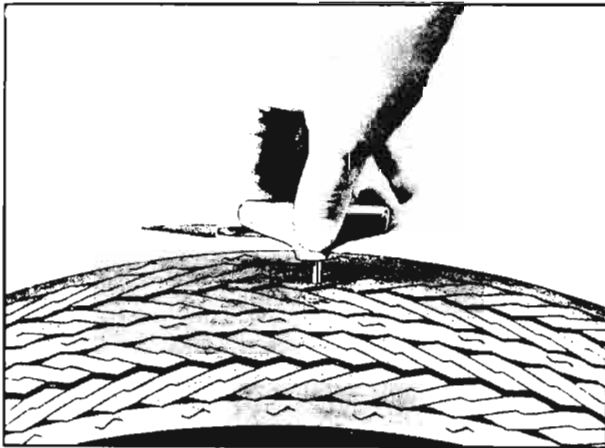

Fig. 3-41—Making Circular Cut with Reaming Tool
3. With cutter shaft or reaming tool in position, make circular cut (approx. $\frac{1}{4}$ -in. deep) around puncture hole, using twisting action (fig. 3-41).
each retraction. Make sure the small circular cutout resulting from operation shown in Figure 3-41 has been removed. Lever the needle in the puncture to prevent escape of air.